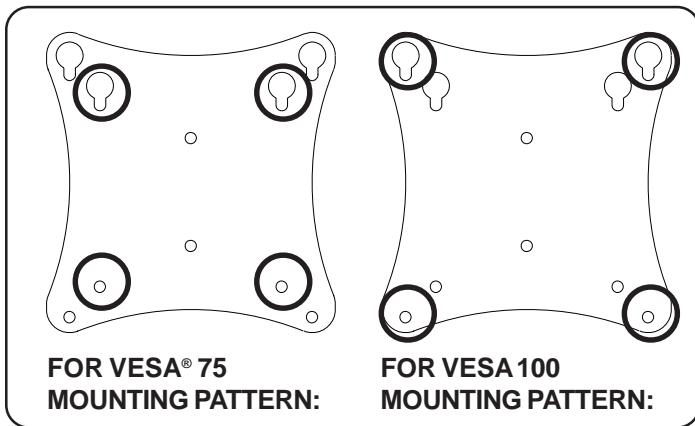

fig. 2.1
- 2 Insert two M4 x 12 mm screws (**F**) into top two holes of screen, leaving approximately 1/4" of exposed thread. Hook screws onto keyslots of adapter plate as indicated in figures 2.1 and 2.2.